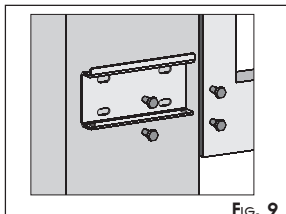

FIG. 9
- ③ Secure the rear bracket in the position you had established, using four M8 screws. As you secure the bracket, respect the lay-out in Fig. 9 and check, using a level, if the bracket is horizontal.